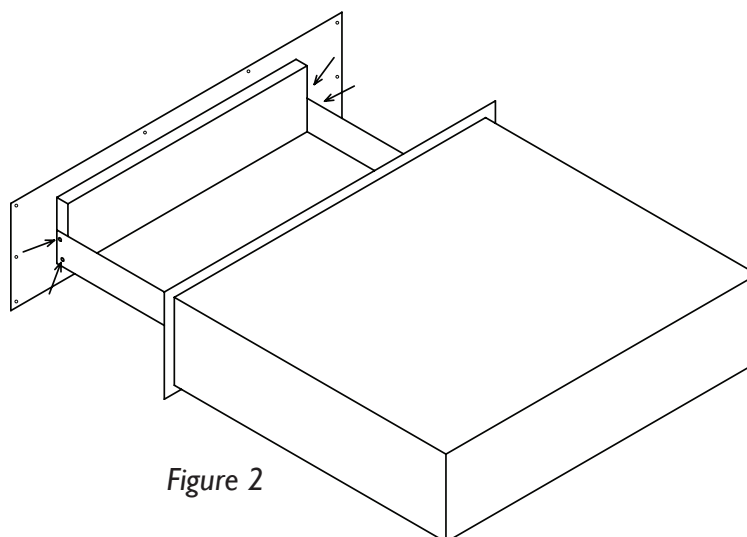

Figure 2
- Loosen the two screws on the inner left and right side of the drawer, as shown in **Figure 2**, and remove the panel from the appliance drawer.